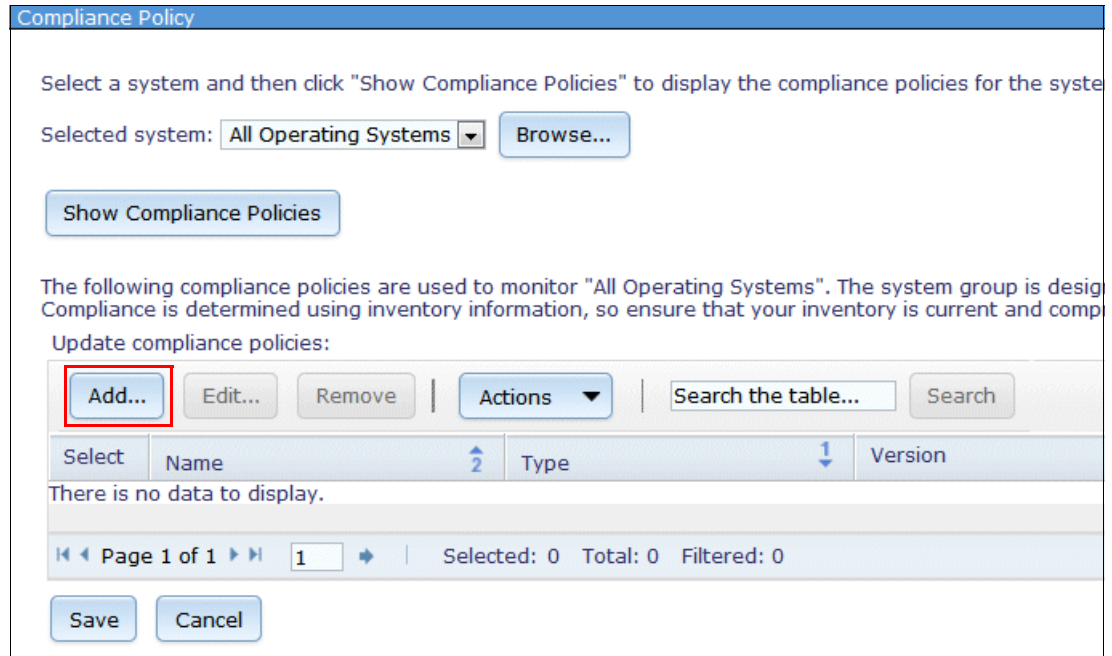

Figure 6-105 Window with no compliance policy
3. Select a system or group of systems to apply the updates to. Keep in mind that for compute nodes, the OS is required to push updates. Generally, create compliance policies against specific devices, and not the All Systems group. For compute nodes, create a compliance policy against the All Operating Systems group or just against a group of Chassis. In this example, navigate to the All Operating Systems group and click **Show Compliance Policies**. This process displays any previously created compliance policies. Figure 6-105 shows that a policy does not yet exist, so add one by clicking **Add**.